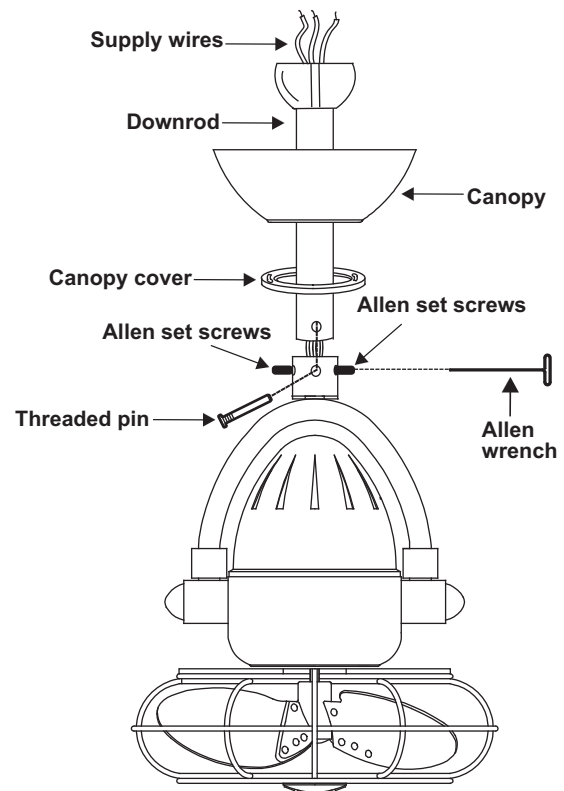

Figure 7
5. Loosen the two allen set screws and remove the threaded pin from the top coupling of the motor assembly. (Fig. 7)